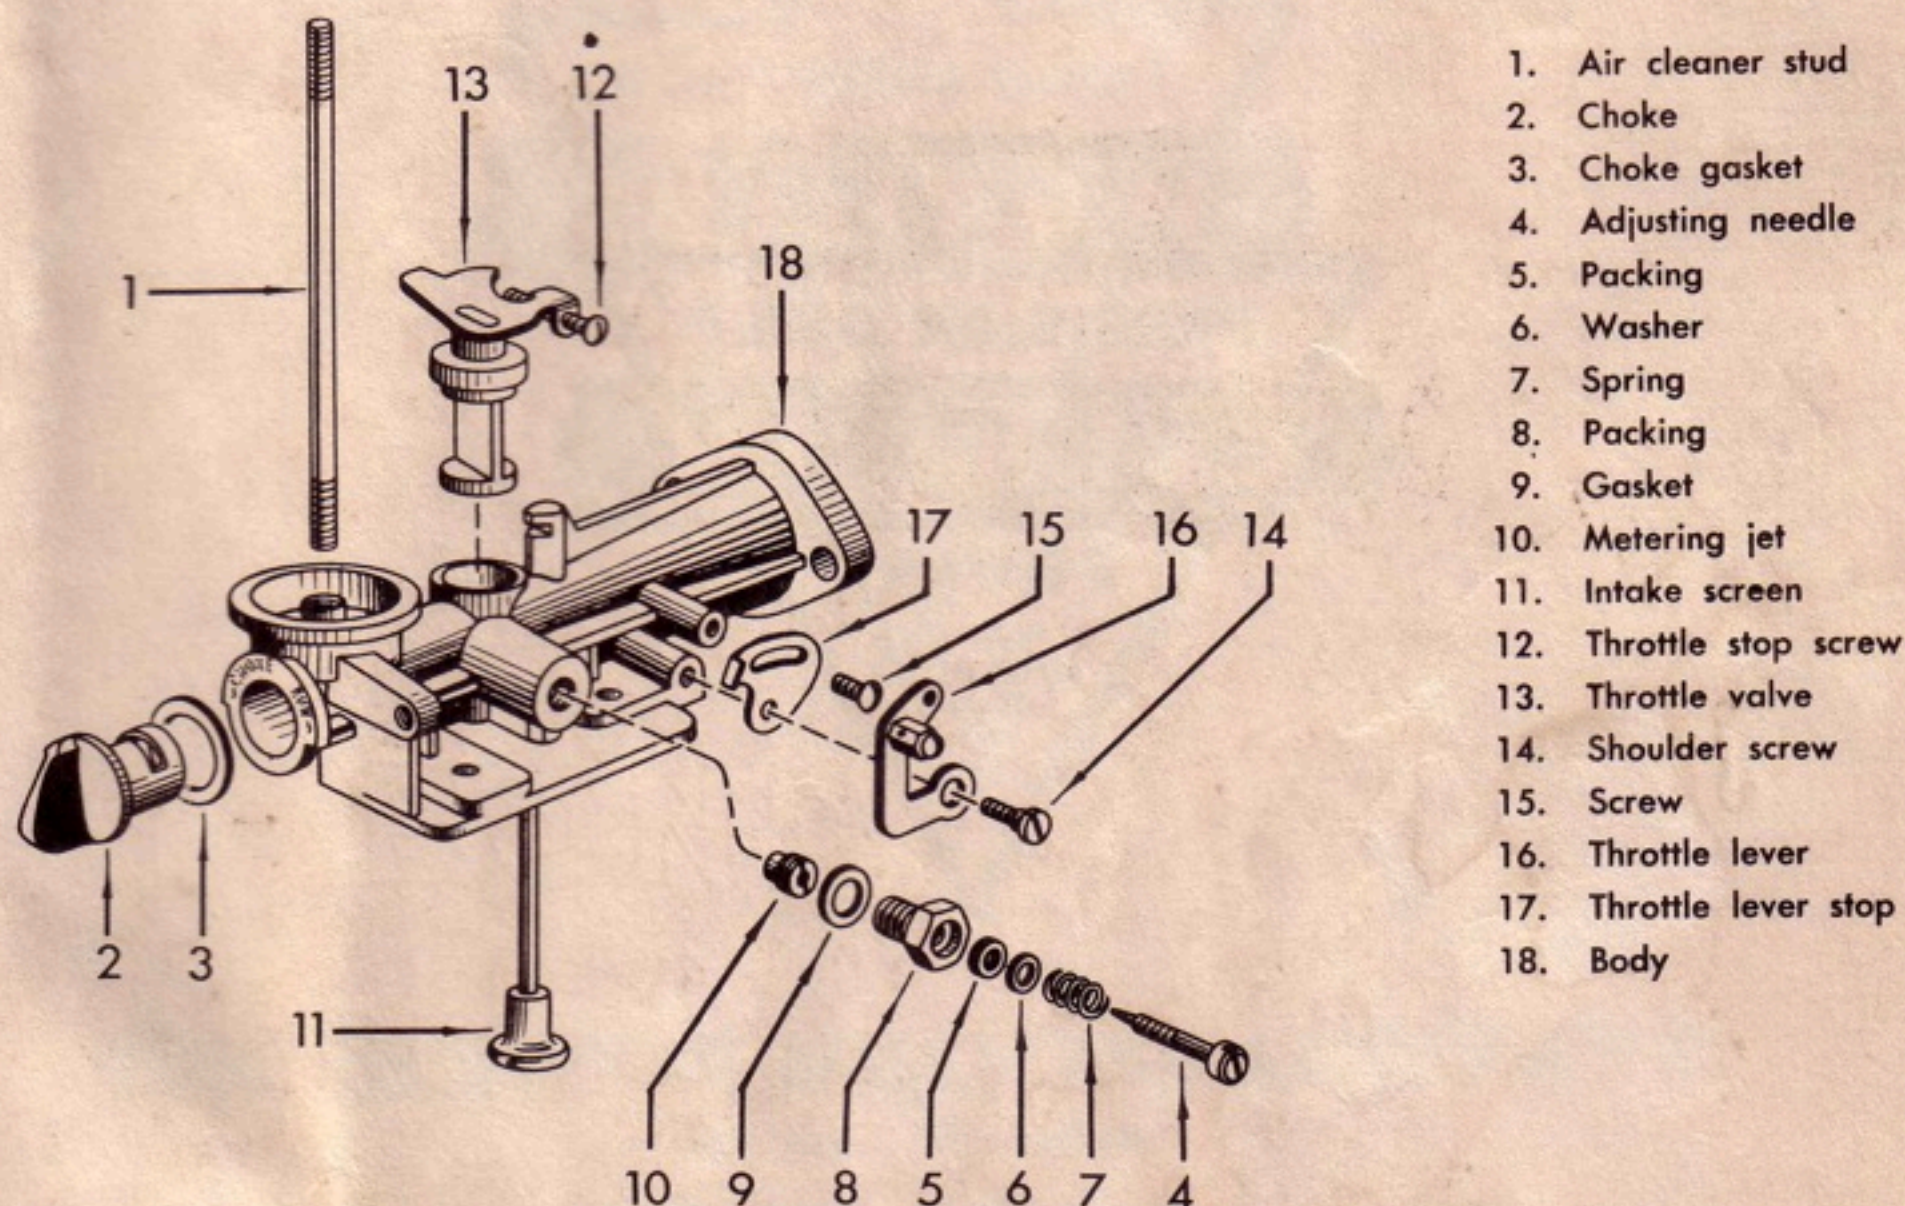

Figure D-8. Suction Carburetor Model 7120
7. DISASSEMBLY. (See figure D-8.)
b. Unscrew and remove the air cleaner stud (1) to free the choke (2). Lift out the choke (2) and gasket (3).
c. Remove the adjusting needle (4). Remove from the needle the packing (5), washer (6) and spring (7).
d. Unscrew and remove the packing nut (8) and gasket (9).
e. Remove the metering jet (10), using a correct size screwdriver blade to avoid damaging the screw slot.
f. Rotate the throttle stop screw (12) in a counter-clockwise direction until the throttle lever can be rotated far enough to permit the throttle valve (13) to be lifted out of the body (18).
g. If necessary to remove the throttle linkage, take out the shoulder screw (14) and regular screw (15) to free the throttle lever (16) and throttle lever stop (17).
8. CLEANING, INSPECTION AND INTERNAL ADJUSTMENTS. (See figure D-8.)
c. Check both the throttle valve (13) and choke (2) for freedom of movement in the body (18). If binding occurs, relieve the high spots by rubbing them with crocus cloth.
9. REASSEMBLY. (See figure D-8.)
a. Install the metering jet (10) in the body (18). Tighten firmly but do not damage the screw slots.
b. Install the packing nut (8) with a new gasket (9).
c. Place the spring (7), plain washer (6) and a new packing (5) on the adjusting needle (4) in the order named, and install the adjusting needle in the packing nut (8). Rotate the needle until it touches the seat, and back it out $3\frac{1}{2}$ turns.
d. Slide the throttle valve (13) in the body (18), and rotate the throttle stop screw (12) enough to secure the throttle valve in the body.
e. Place a new gasket (3) on the choke (2) and insert the choke in the body with the arrow in a vertical position. Install the air cleaner stud (1).
g. If the throttle lever (16) was removed, place it in position and secure it with the screw (15).
h. Place the throttle lever (16) over the shoulder screw (14) and tighten the screw in place.